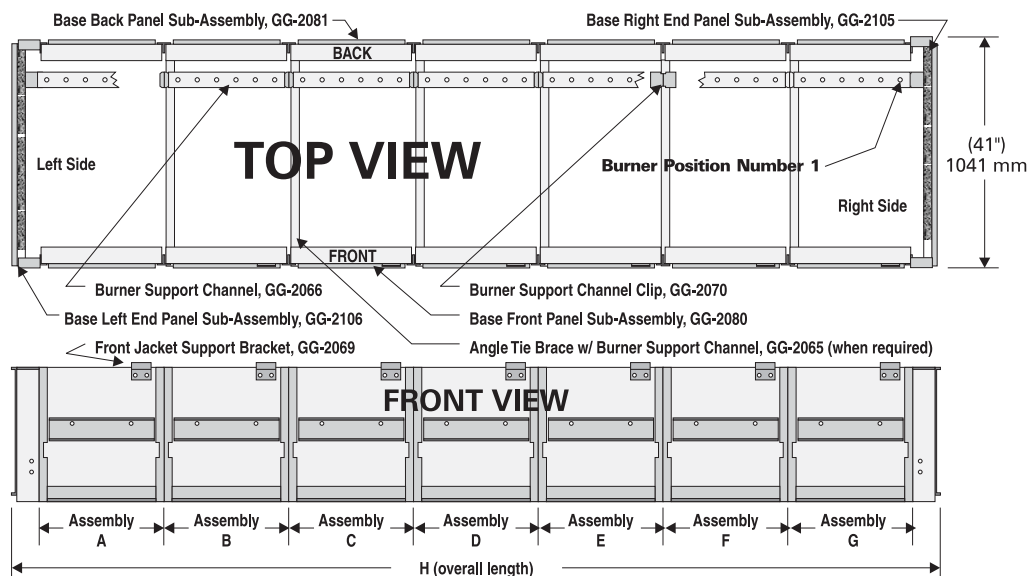

Figure 2.1: Boiler Base Assembly
6. Bolt remaining Front and Back Panels together using 5/16"-18 x 1" (25 mm) cap screws and hex head nuts. See Table 2.1 for panels required. Place the panels in the positions shown in the table and Figure 2.1.
9. Set the Burner Support Channels in place as shown in Figure 2.1.
Table 2.2: Pilot Burner Locations – Numbered Right to Left (See Figure 2.1)